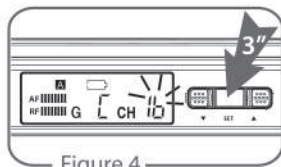
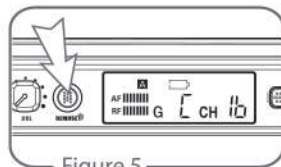

Figure 4
Figure 5
- (1) Press "Set" button **5** for 3 Seconds, the group (G) in the "Group & Channel" **18** area will flash. (Figure 4)
- (2) Press "▲Up **3**" or "▼Down **4**" button to select a desired group
- (3) Press "Set" again and the Channel (CH) in the "Group & Channel" area will flash.
- (4) Press "▲Up" or "▼Down" button to select a desired channel.
- (5) After setting, press "Set" again to save the settings.
- (6) Press "REMOSET" **7** to synchronize the channel of a transmitter. (Figure 5)
- (7) If the channel of the transmitter fails to change, the "REMOSET" key will keep flashing.